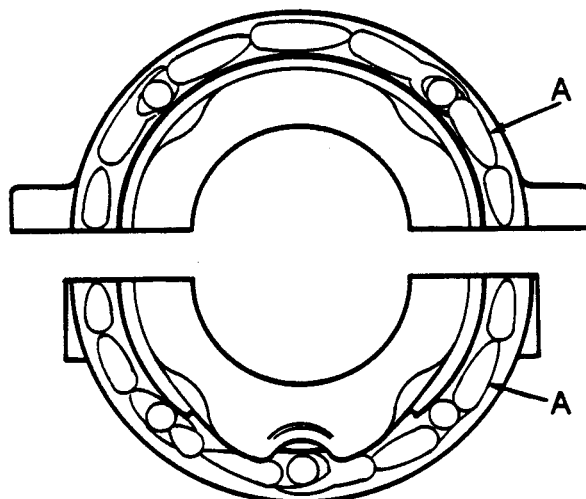

FIGURE 58 POSITION OF GASKET ELIMINATOR
2. Put a thin strip of Loctite Superfast Gasket Eliminator 504 on the face of the retainer. See Figure 58.